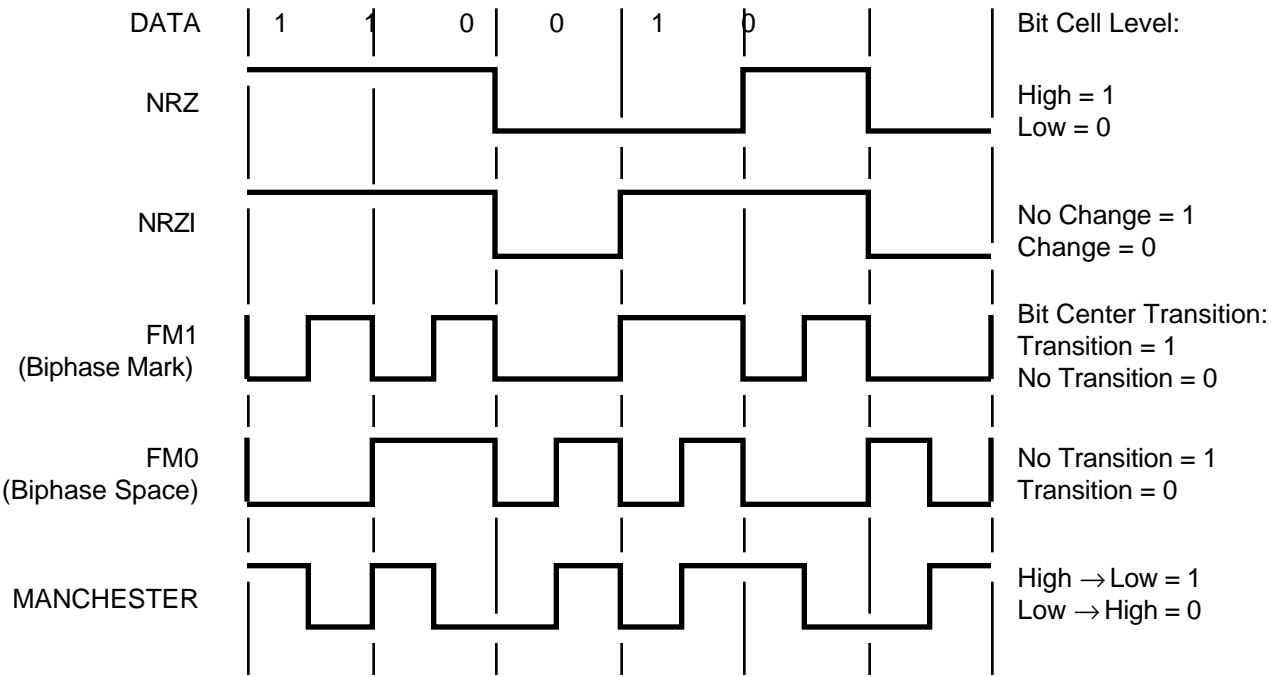

Figure 3-3. Data Encoding Methods
four encoding methods is shown in Figure 3-3. Any encoding method is used in any X1 mode in the SCC, asynchronous or synchronous. The data encoding selected is active even though the transmitter or receiver is idling or disabled.
**Data Encoding Initialization.** The data encoding method is selected in the initialization procedure before the transmitter and receiver are enabled, but no other restrictions apply. Note that in NRZ and NRZI, the receiver samples the data only on one edge, as shown in Figure 3-3. However, in FM1 and FM0, the receiver samples the data on both edges. Also, as shown in Figure 3-3, the transmitter defines bit cell boundaries by one edge in all cases and uses the other edge in FM1 and FM0 to create the mid-bit transition.